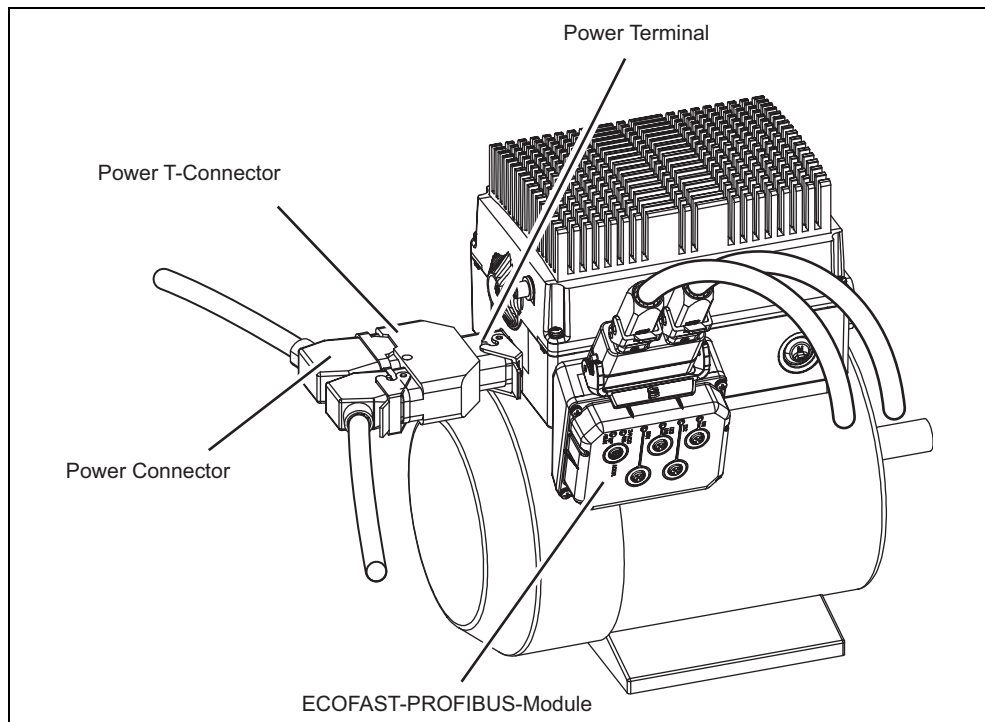

Figure 2-10 COMBIMASTER 411 ECOFAST Connections
8. Connect the Power T-Connector to the Power Terminal on the inverter (see Figure 2-10).